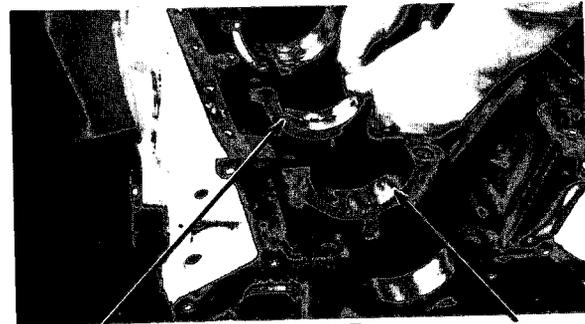

Figure 6-5
10. Remove four upper main bearings (6) and thrust bearing (7, Figure 6-5).
2. Install thrust bearing (7) and four upper main bearings (6, Figure 6-5).
3. Lubricate thrust bearing (7) and four upper main bearings (6) with lubricating oil DOD-L-25681.